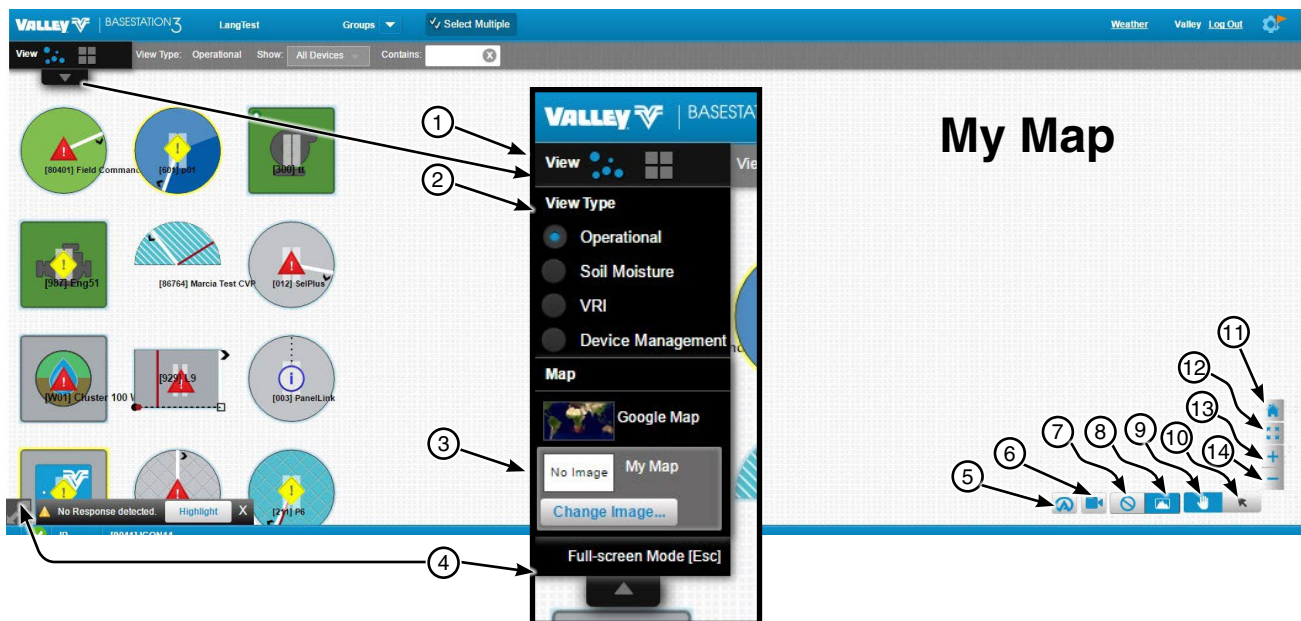

Figure 23-1
Figure 23-1 illustrates how the screen looks in Map View (1) with Operational view type (2) selected. My Map (3) Displays the devices over the screen capture of an image; this can be any type of image file that shows meaningful background information. Other types of images can be engineering drawings of field layout, pipeline routing, property survey, etc. To use My Map an Internet connection is NOT required.
- **Full Screen (4):** To switch to full screen click the Full Screen button in the bottom left hand corner of the screen, select Full Screen Mode from the View Controller Drawer or push the Esc key. To exit full screen, click the Full Screen button again or push the Esc key. Full Screen is not available in Device Management view type.
- **AgSense (5):** Displays AgSense device configurations. Click on a device for individual configuration.
- **Web Camera (6):** Displays a list of the Web Cameras Associated with the Devices. Add web cameras and associate them with a device.
- **Map Off (7)/Map On (8):** Turn the map background On or Off. (My Map Only)
- **Pan Tool (9)/Pointer Tool (10):** Toggle between the pan tool and pointer tool. Use the Pan Tool to move the map with devices. Depending on View Controller View type, use the pointer Tool to select and move, size, change, copy, open or delete a device or select and move an Auxiliary Link pin status box (only available on My Map).
- **My Home View (11):** Changes the view back to the user's saved home view. (Google Map Only)
- **Zoom to Fit Screen (12):** Changes the view to display all of the devices on the screen.
- **Zoom In (13):** Zooms into the center of the screen. In Google Map you can also use the mouse wheel to zoom in.
- **Zoom Out (14):** Zooms out from the center of the screen. In Google Map you can also use the mouse wheel to zoom out.